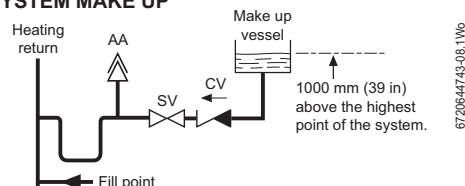

Fig. 11 System fill and make up
- Filling the system must comply with one of the methods shown in the figure 11.